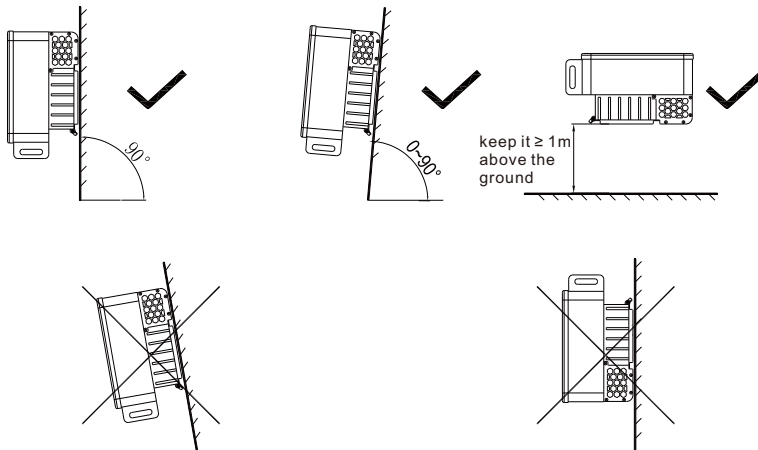

Figure 5.1
- Ensure that the installation wall is solid enough to bear the inverter. (Inverter weight please refer to installation manual Figure 5.1)